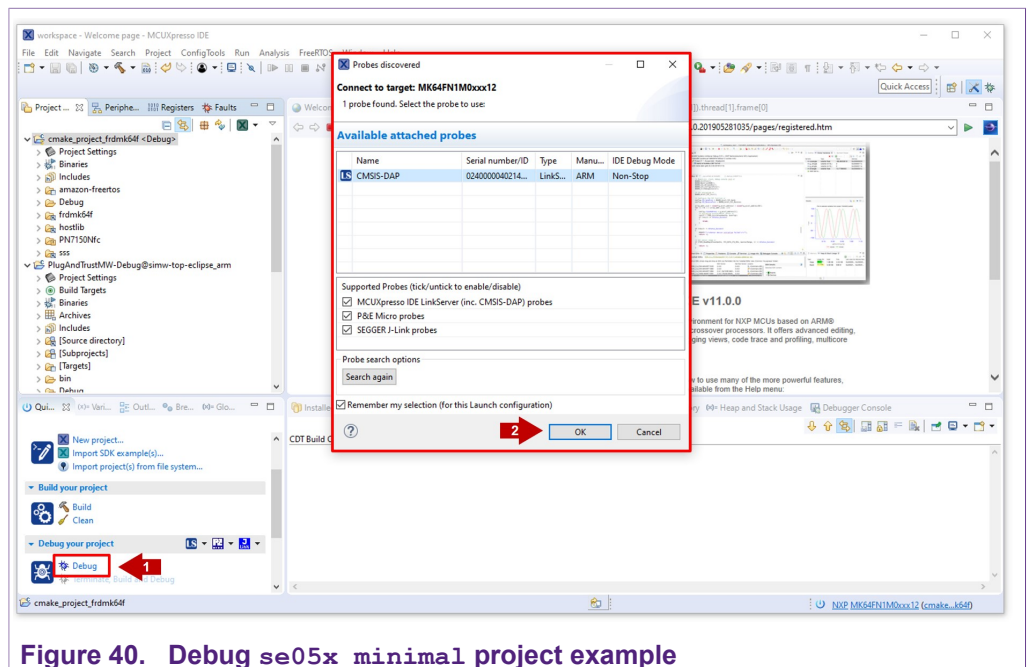

Figure 40. Debug se05x_minimal project example
- Go to the MCUXpresso Quickstart Panel and click **Debug** button as shown in Figure 40. If there is more than one probe attached, you have to select CMSIS-DAP debug probe from the list. Wait a few seconds until the project executes: